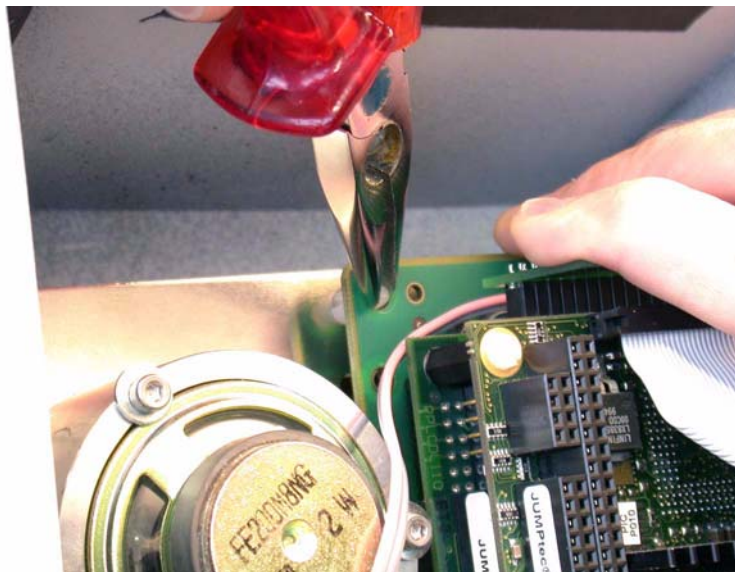

Figure 11-54. Removing the board from one spacer
5. Remove the control board from the plastic spacers. Do do this, squeeze each spacer in turn, while easing the board off the spacer. Leave the spacer in the center of the board until last. (Figure 11-54.)